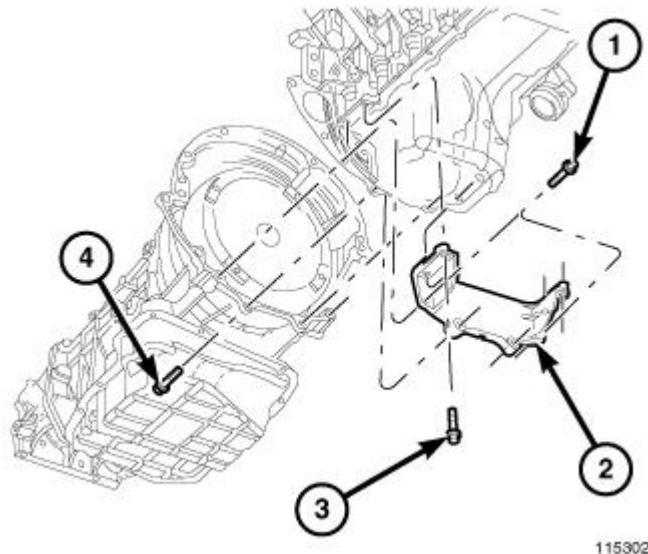

Fig. 190: Structural Dust Cover Removal
2. Remove the structural dust cover using sequence shown in illustration. See Engine/Engine Block/COVER, Structural Dust - Removal . See Fig. 190.